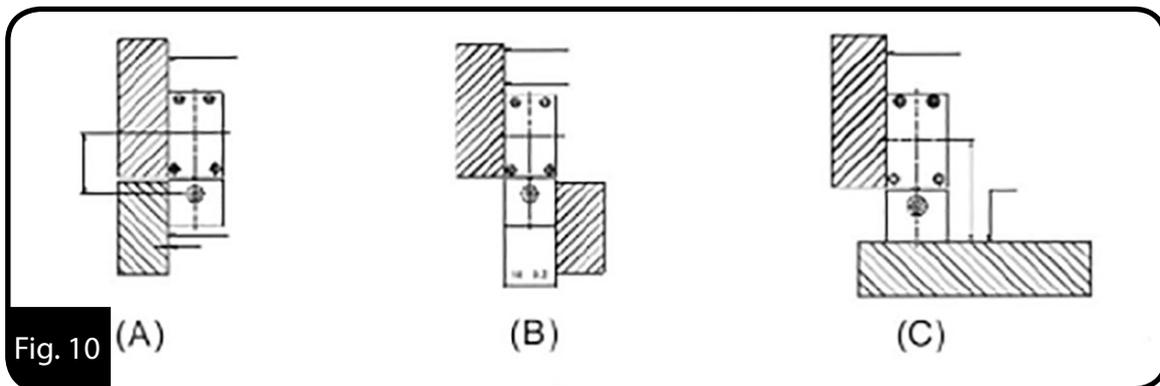

Fig. 10 (A)
- If the mounting surfaces are perpendicular to each other (i.e. As per shown in figure C), the squareness of these two mounting surfaces must be less than 0.1mm. (Fig. 10)